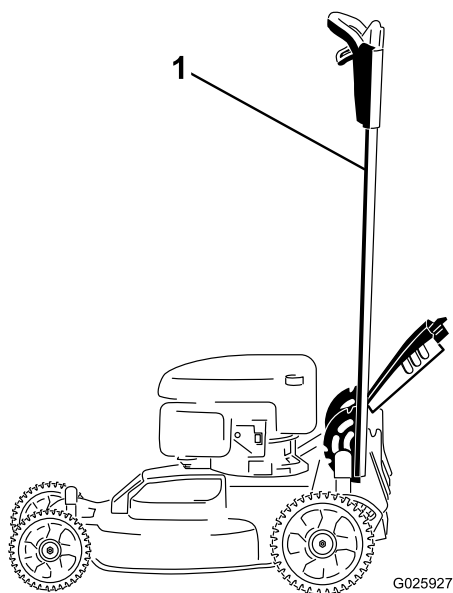

Figure 39
1. Lock the handle in the vertical position (Figure 39); refer to Adjusting the Handle Height (page 9).